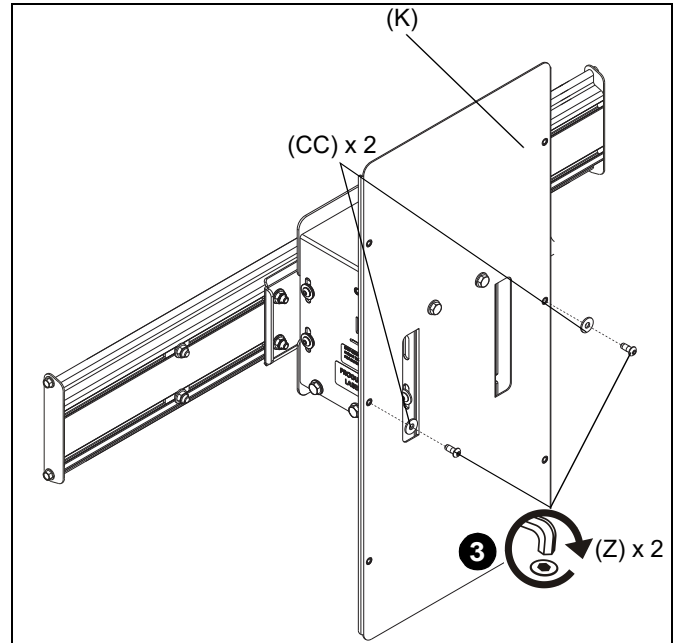

Figure 6
3. Loosely install two 1/4-20 x 5/8" button head cap screws (Z) and two 1/4" washers (CC) into two center holes on center wind shield (K). (See Figure 6)